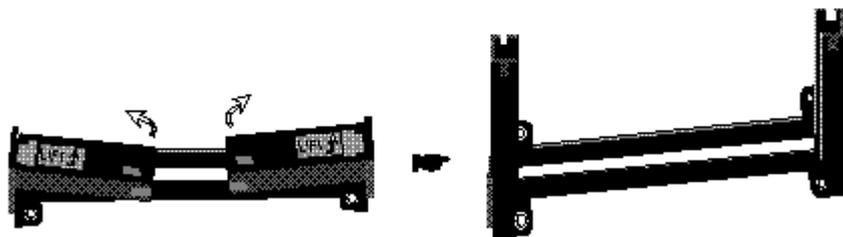

Figure 8
- 1 First, please refer to figure 8 below, and follow the direction to lift up the fixed foldable pentium® II Retention Mechanism. This pre-installed device is designed for you to install Pentium® II CPU more easier and to avoid any damage on the board due to overtightening the four screws.
Figure 9 shows the layout of Slot 1 and the holes for mounting the Heatsink base piece (figure 8).